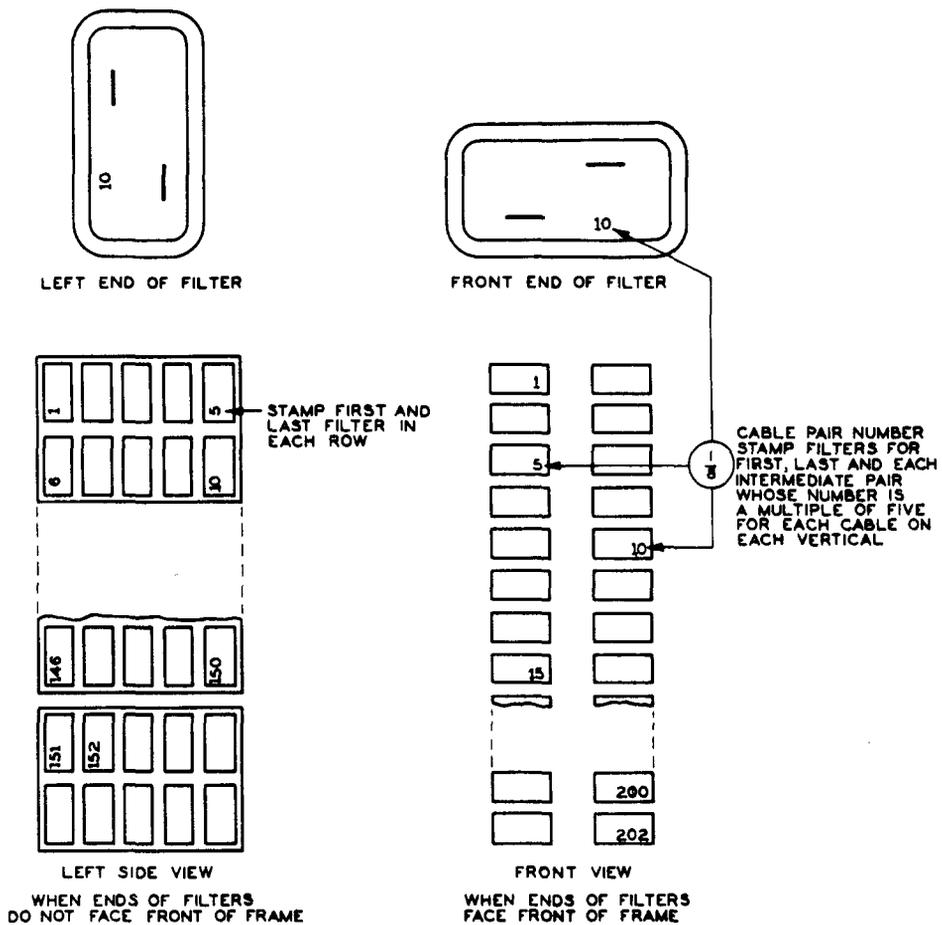

Fig. 23 - Filters on Distributing Frames
2.12 On filters, stamp cable pair numbers as shown in Fig. 23.